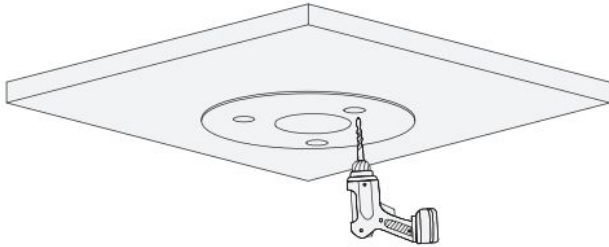

Figure 2-1
Step 1 Use the included position map and drill the appropriate mounting holes and cable exit, if necessary. See Figure 2-1.